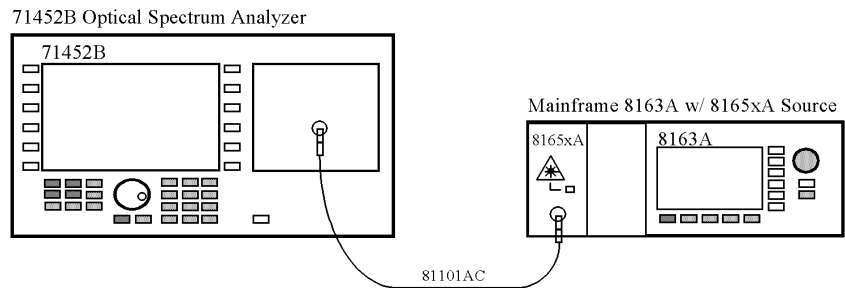

Figure 6 Measurement Setup for Center Wavelength and Spectral Bandwidth
- 2 Setup the equipment as shown in Figure 6 .